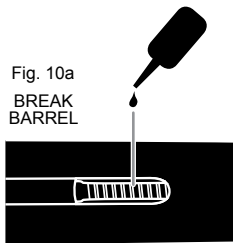

Fig. 10a
Mainsprings should be oiled every 1000 shots with six (6) drops of RWS Spring Cylinder Oil (See Figures 10a and 10b). Remember, a little is good – a lot is not better.